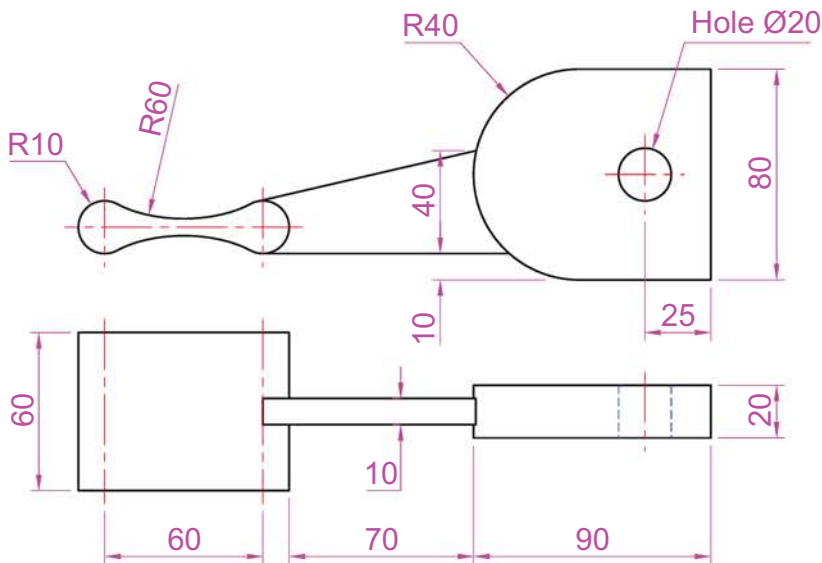

Fig. 19.17 Third example – 3D models – details of shapes and sizes
1. **Front.** Construct the three plines needed for the extrusions of each part of the model (Fig. 19.17). Extrude to the given heights. Subtract the hole from the 20 high extrusion.